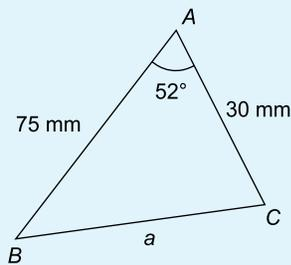

Figure 1.10
8. In the triangle  $ABC$  shown in Figure 1.10, side 'a' is equal to:
9. In the triangle  $ABC$  shown in Figure 1.10, angle  $B$  is equal to: